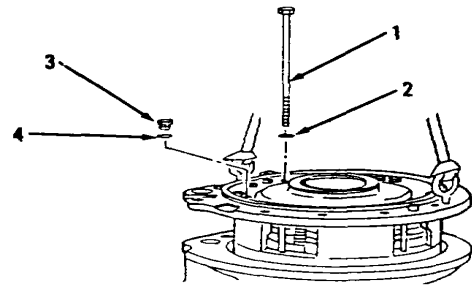

Figure 14-39.
1. Remove 12 bolts (1) and washers (2, Figure 14-39).
2. Remove plug (3), preformed packing (4). Discard preformed packing (4).